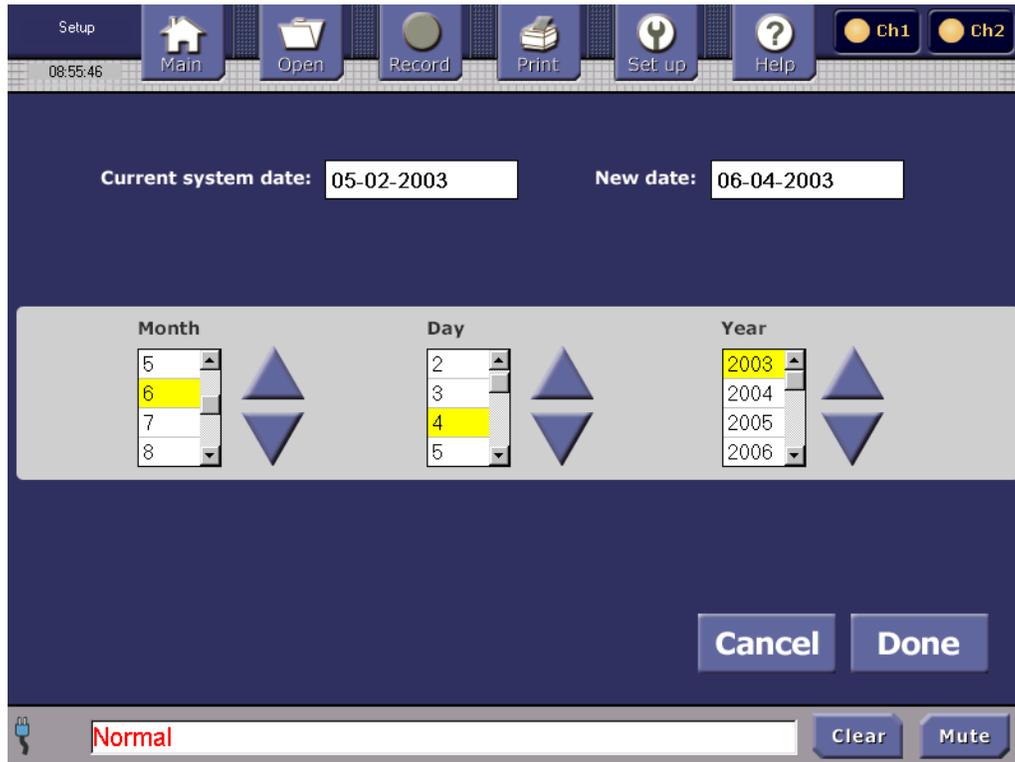

Figure 20. Set Up Date Screen
1. In the **Set Up Current Date and Current Time** screen, press the **Change Setting** button located to the right of **Current Date**. The **Set Up Date** screen is displayed, as shown in Figure 20.